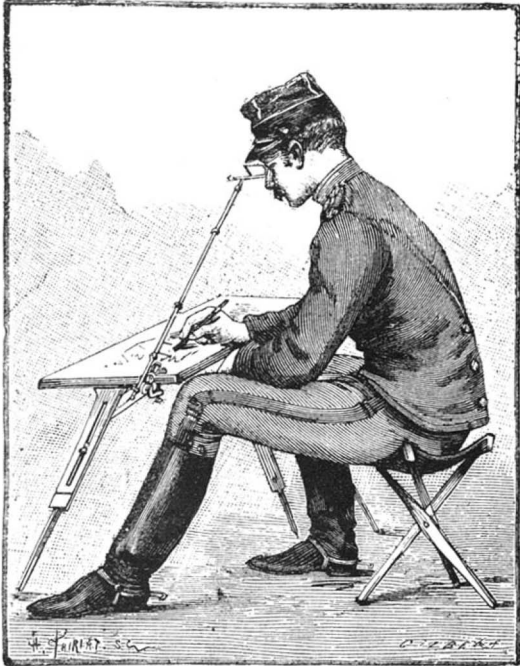
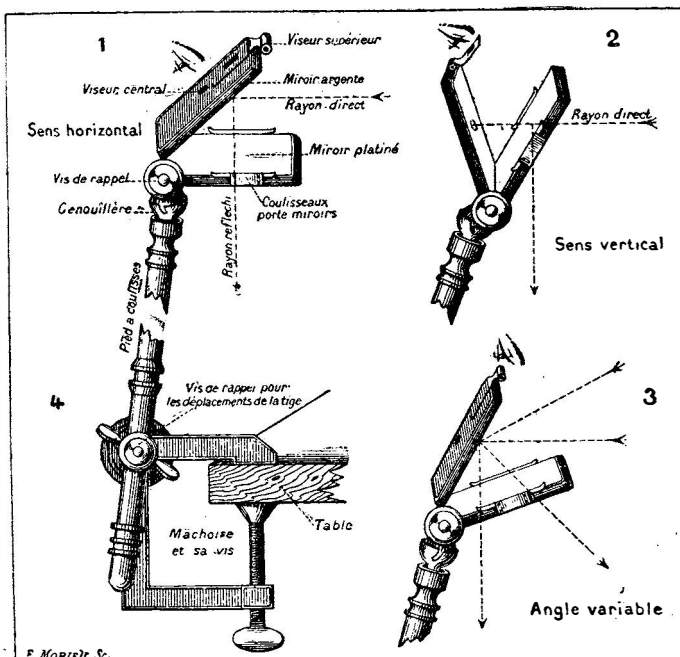

Fig. 2.—METHOD OF USING THE APPARATUS.
Fig. 1.—DETAILS OF BLAIN'S HEMEROGRAPH.
In order to place the instrument in position, as shown in Fig. 2, the jaws are fixed to a table, the extensible foot is adapted to it, and the mirror supports are installed upon the joint. By acting upon the binding screw, the foot is placed at the point desired, and the apparatus is ready to operate. It is necessary, then, to open the mirror supports, and when the foot is at the proper point to well expose the object, it is arrested by its adjusting screw. The instrument may be used with both eyes or one only. The play of the mirrors is so simple that after a first trial one will be master of the instrument.
Fig. 1 shows the method of using the instrument in the three directions: (1) horizontal; (2) vertical; and (3) at a variable angle. If it is used at a variable angle, the metalized mirror must be placed upon the lower edge of the cap of the spy glass, and the silvered mirror be brought to the angle most favorable for receiving the direct ray. The eye is placed as in the figure.
The form of buckle shown in the illustration is designed to replace older varieties of buckles wherever a buckle is needed, and is particularly adapted to adjustably connect parts of harness for draught animals. It has been patented in the United States and Canada by Mr. George M. Aylsworth, of Collingwood, Canada, and a patent has been applied for in England. It is believed the new buckle will do away with the hand stitching now required to form an adjustable connection or joint between two or more pieces of leather, as these buckles are attached by means of rivets, and the tongue plate takes the place of the old form of keeper loop, as shown in Fig. 2. The frame of the buckle consists of a sheet metal blank secured to the strap by rivets, and with bent-up side flanges, in which, at one end, is a transverse pintle carrying a spring-pressed keeper plate. A tongue, formed of a rivet, is secured in the keeper plate, the tongue being adapted to pass through a strap and have a locking engagement with an opposite perforation in the web plate of the frame, as represented in Fig. 1, where the buckle is shown in use to make an ordinary joint. The buckle is convenient to adjust, and simple and cheap in construction, obviating the need of a keeper or loop on the strap to prevent the flapping of the end of the strap, and it is also very light, strong and neat in appearance. An affidavit of a practical harness manufacturer, familiar with the new buckle, sets forth that in his opinion a man will, with this buckle, make a set of harness in about half the time required with the old form of buckle.
its upper part with a second sight hole designed to be employed in a vertical direction (Fig. 1).
and animals, can be made to illustrate the most marvelous peculiarities without adding to the cost of production. This improvement consists in making these hollow images of varying thicknesses of rubber, so that when squeezed by the hand the thinner parts expand out of all proportion to the rest of the image, producing an endless variety of grotesque and ludicrous variations of the same image, according to the amount of compression given by the hand. The accompanying illustration represents one of these toys, Fig. 1 showing it in its normal state and Fig. 3 as the parts are distended when the toy is slightly squeezed by the hand. The thinness of the rubber at the eyes, nose, and chin is indicated in the diagram view, Fig. 2. It will be seen that this invention offers a wide range for the skillful designer in this line of goods, as by simply varying the thickness of the rubber in different parts of a toy startling results are made to appear by a simple squeeze of the hand.